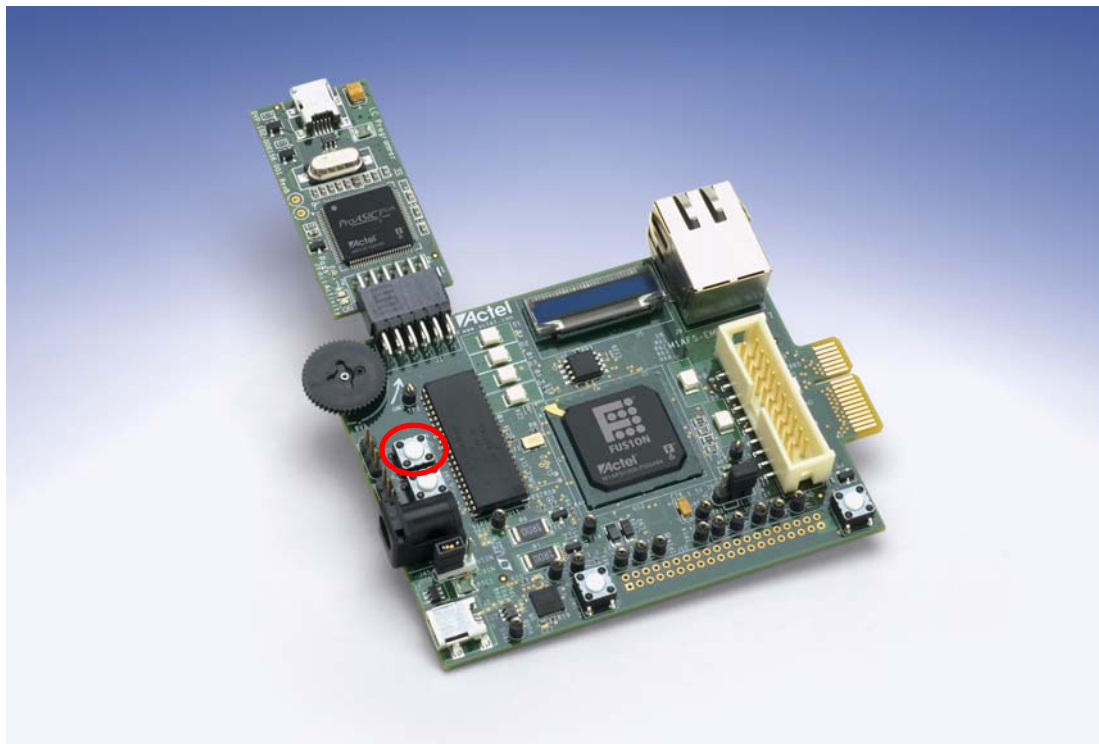
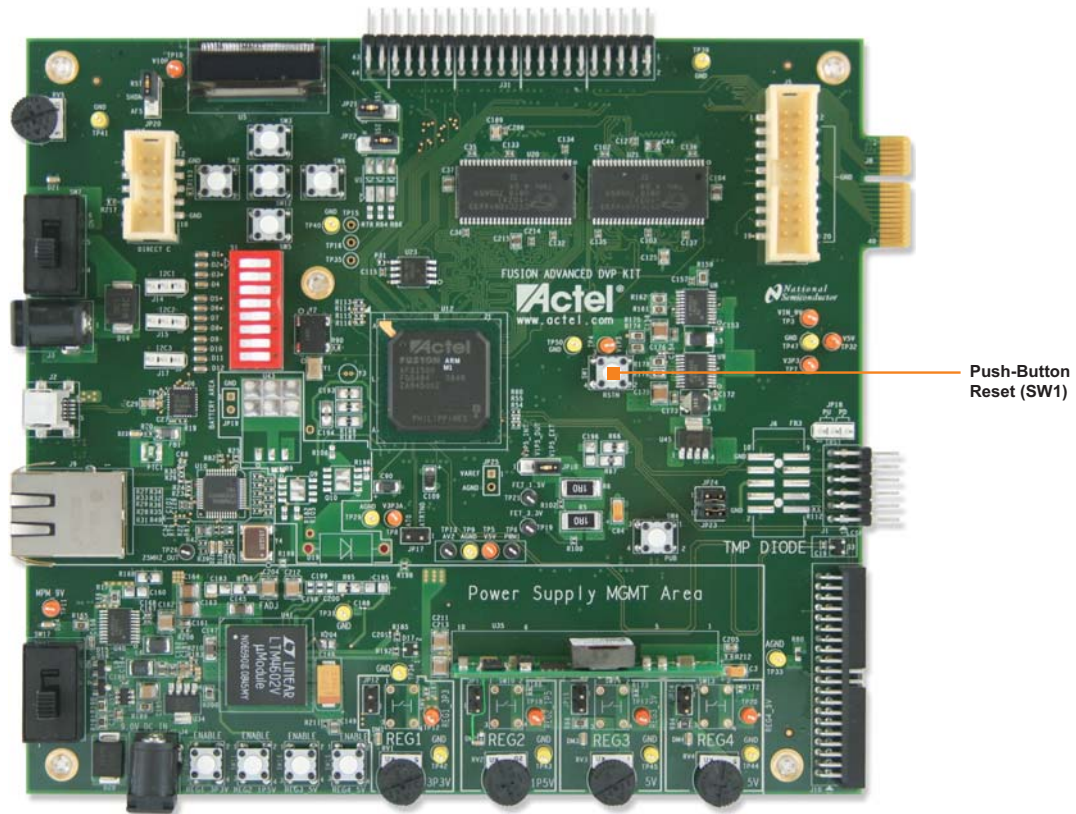

Figure 5-5 • Fusion Embedded Development Kit Reset System with SW1
Figure 5-6 • Fusion Advanced Development Kit Board Reset System with SW1
5. Press SW1 on the board to reset the system (Figure 5-5 and Figure 5-6 on page 5-50).